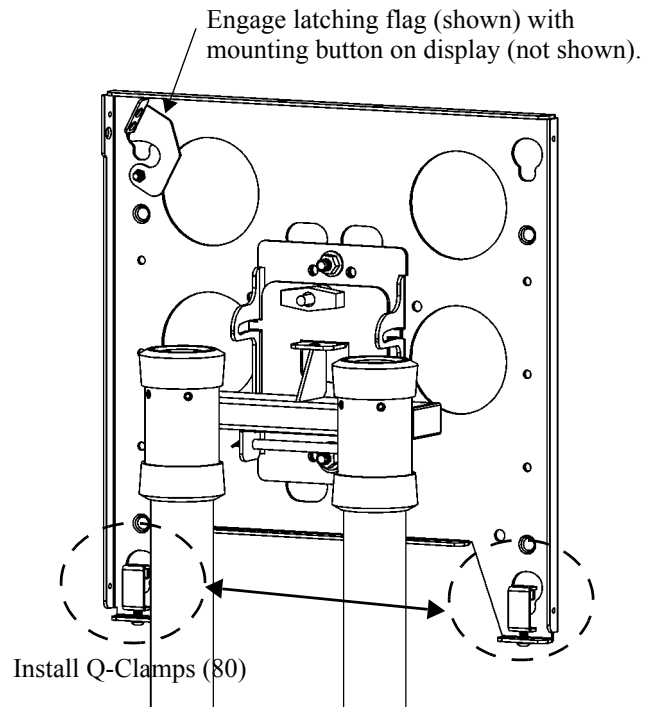

Figure 4. Engage Latching Flag and Install Q-Clamps
3. Secure the display by completely engaging the latching flag over the mounting button (see Figure 4).
4. Lock the display in place by installing two Q-clamps (80) on each side of the face plate (see Figure 4).